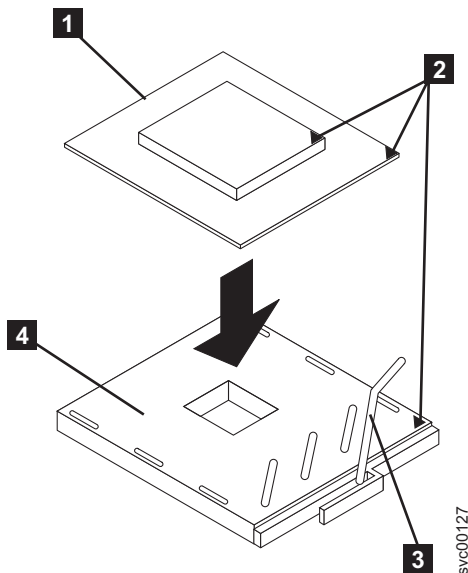

Figure 261. Microprocessor locking lever in open position
3. Rotate the locking lever **3** from the closed position to the open position, as shown in Figure 261.